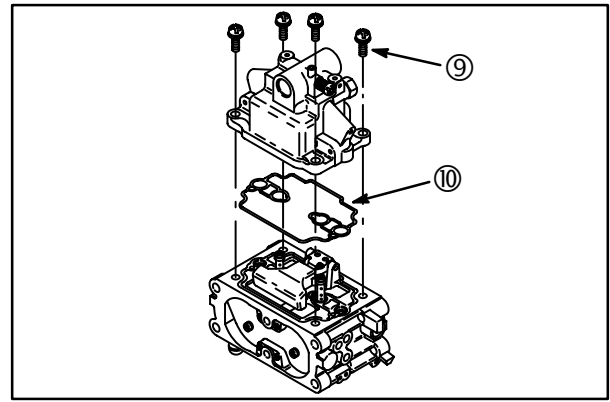

Fig. 62
- Remove carburetor lower body screws (9). Lift lower body straight away from upper body, **Fig. 62**. Discard gasket (10).